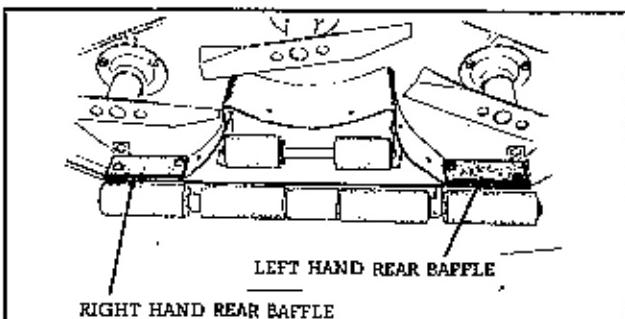

FIG. 5
- Ins all the Left Hand and Right Hand Rear Baffle Plates as shown in Figure 5. These baffles are each held in place by 2 carriage bolts, lockwashers, and hex nuts. Note that the lockwashers and nuts are on the exterior of mower housing.